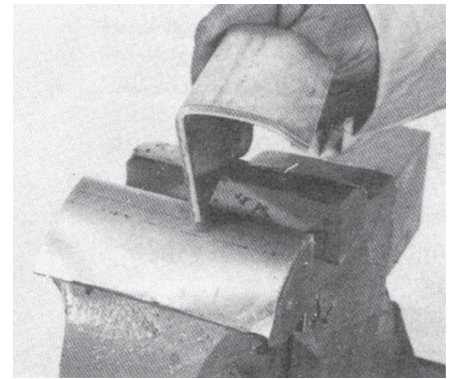

Figure 4-1 Aluminum plates in vise.
4.2 Use bench vise to hold pump while disassembling and reassembling. Cushion vise jaws with soft aluminum plates to prevent scratching the fluid body. See Figure 4-1. Position pump in vise with tube (48) to the front of the pump.